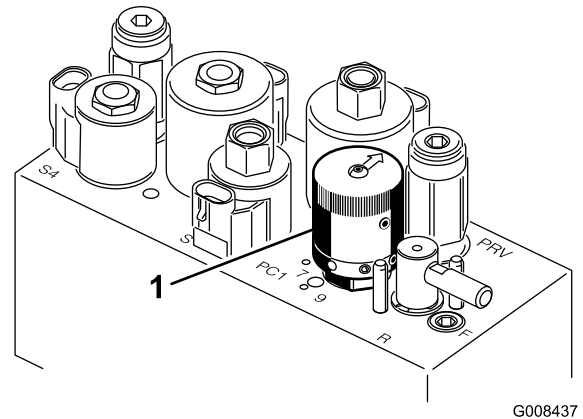

Figure 37
4. To set the reel speed, rotate the knob (Figure 37) until the indicator arrows are in line with the number designating desired setting.